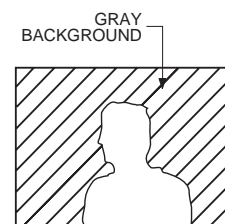

Figure 3. Image on Monitor
6. While viewing an object in front of a bright background (refer to Figure 3), adjust the ECLP variable resistor by turning it clockwise or counterclockwise until the foreground is clear (sharp) and the background appears gray.